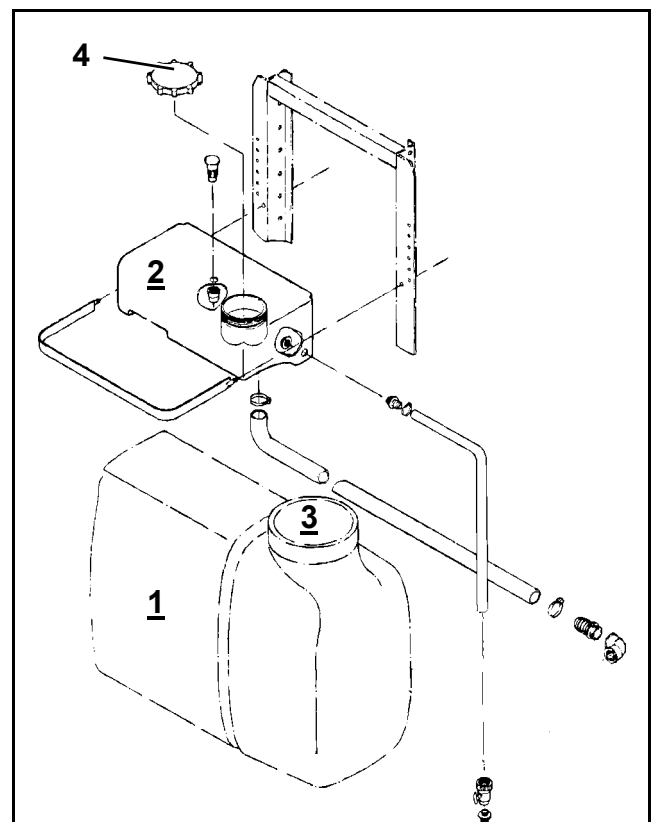

Fig. 28
- The filling of the spray mixture tank (Fig. 28/1) und and clean water tank (Fig. 28/2) is always conducted via the filling opening (Fig. 28/3) or (Fig. 28/4) by a water pipe in "free flow".